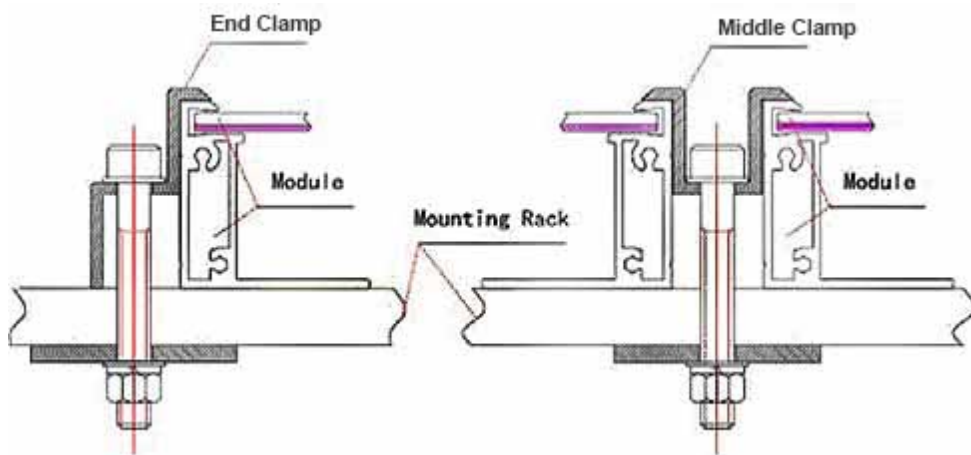

FIG 7 Clamping mounting method
- ✚ Using suitable module clamps on the side of the module frame to mount the modules, as shown in FIG 7. The thickness of the clamp should be no less than 3mm, the length should be no less than 40mm and the length of the overlap should be no less than 5mm.
should be mounted in a symmetric position with respect to center, as shown in FIG7. The torque should be determined by the mechanical design standard of the bolt or as specified by the mounting manufacturer. For instance, M8—16-20N.m.